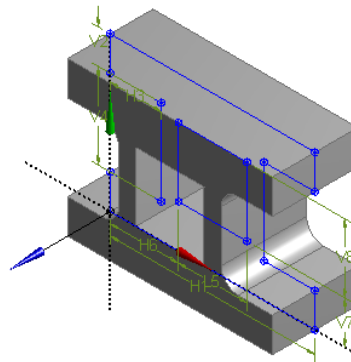

Figure 3-37 Resulting base feature
5. Choose the **Generate** tool from the **Features** toolbar; the base feature is created with the specified settings, refer to Figure 3-37. Also, the thunderbolt symbol is changed to green tick mark indicating that the feature is updated.